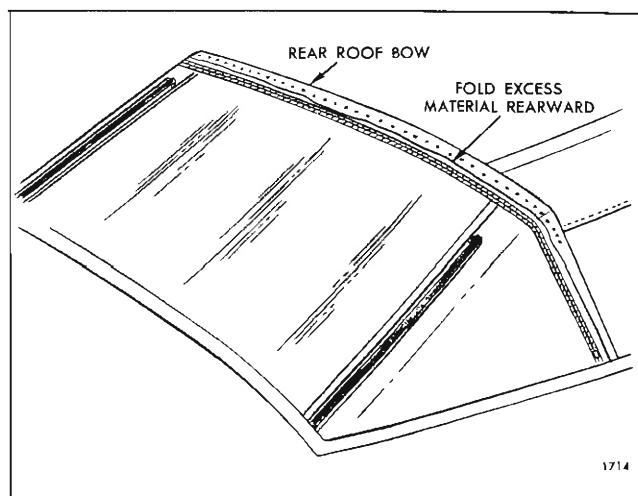

Fig. 2-I-16—Back Curtain Installation at Rear Roof Bow
17. Where required, place reference chalk mark on outer surface of back curtain along pinchweld finishing molding. Re-adjust back curtain assembly as required. (Fig. 2I17).